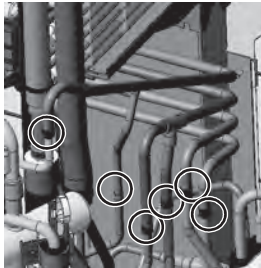

Figure 13
Removing the standard rear right heat exchanger (Figure 13)
- (8) Remove the braze at the six areas that are located on the right side of the four pipes on the back of the accumulator. (See Figure 13.)